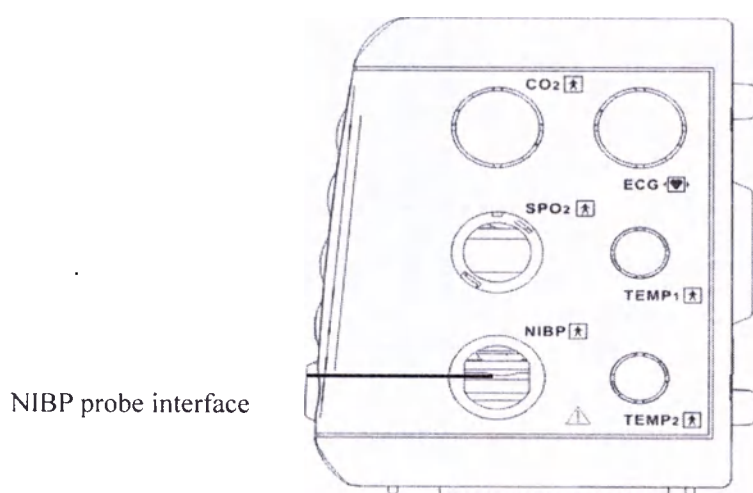

Figure 13-1 NIBP Interface
- (b) Attach a blood pressure cuff to the patient's upper arm or thigh in the following ways, (Figure 13-1).